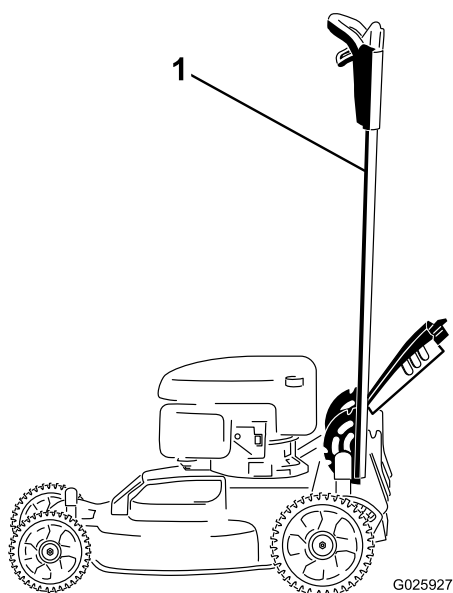

Figure 40
1. Lock the handle in the vertical position (Figure 40); refer to Adjusting the Handle Height (page 10).